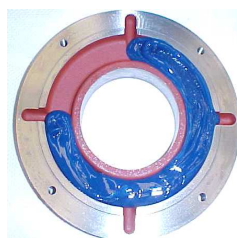

Figure 7.4: Outer bearing cap
- Fill up to $\frac{3}{4}$ of the inner and outer bearing cap deposits with the recommended grease (Figure 7.4) and lubricate the rolling bearing with enough grease before assembling it;